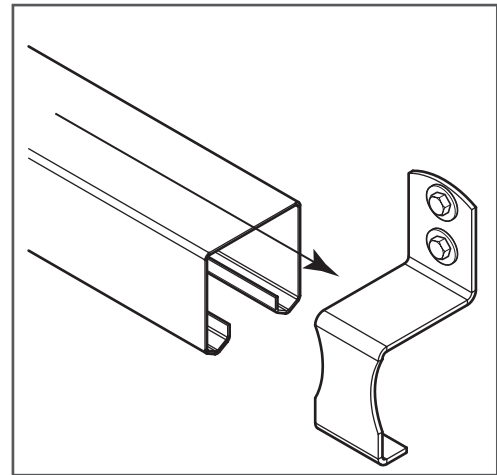

Figure 6
7. Slide the box track (A.) through the bottom of the bracket. Tighten the lag screws. Install the other end bracket. Slide the other end of the box track into the end bracket so both brackets are supporting the box track (Figure 6).